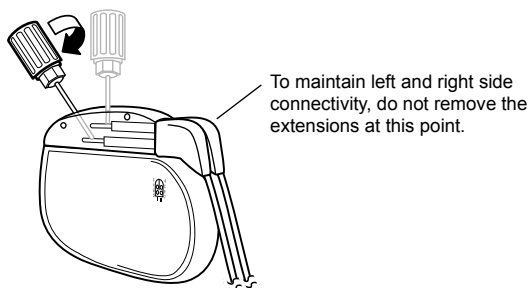

Figure 3. Retract the setscrews within the explanted neurostimulator using the torque wrench.
1. Using the torque wrench, retract the setscrews within the explanted neurostimulator connector block (Figure 3).